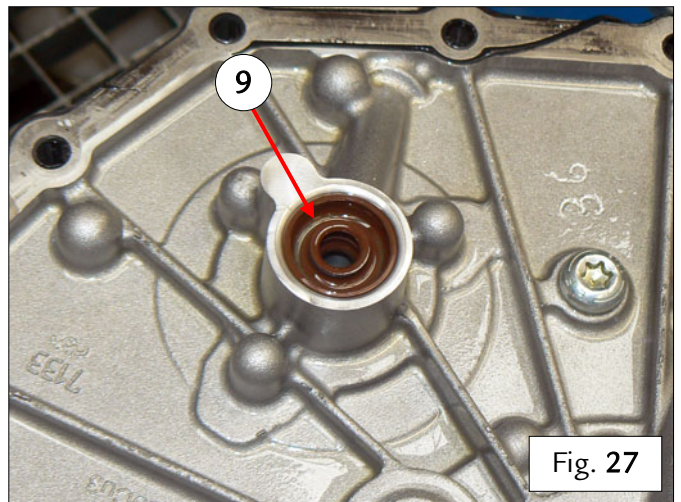

Fig. 27
- Remove the two oil pump spindle seals from the interface plate (9) – Fig. 27.